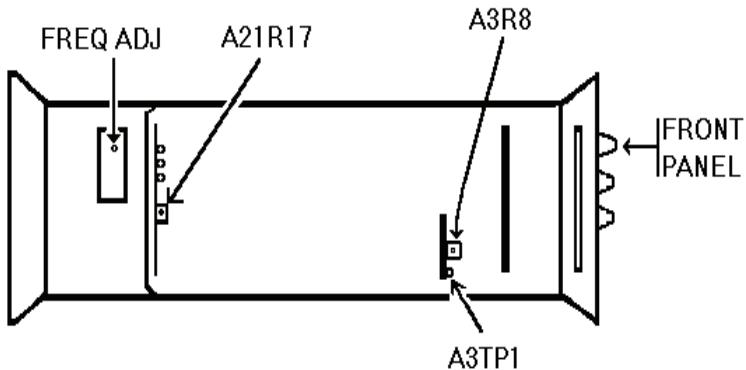

Figure 2. TD-1225A(V)1/U (Hewlett-Packard, Model 5342A/H14), TD-1225A(V)2/U (Hewlett-Packard, Model 5342A/H16), and Hewlett-Packard, Model 5343A - top view.
- (1) Set function generator frequency to 1 MHz and amplitude to 200 mVp-p.
- (2) Decrease function generator amplitude while adjusting A3R8 (fig. 2) to a point where TI no longer counts (R).
- (3) Verify that sensitivity is at least 35 mVp-p.
b. Adjustments. Adjust A21R17 (fig. 2) for -5.2 V dc indication on multimeter (R).